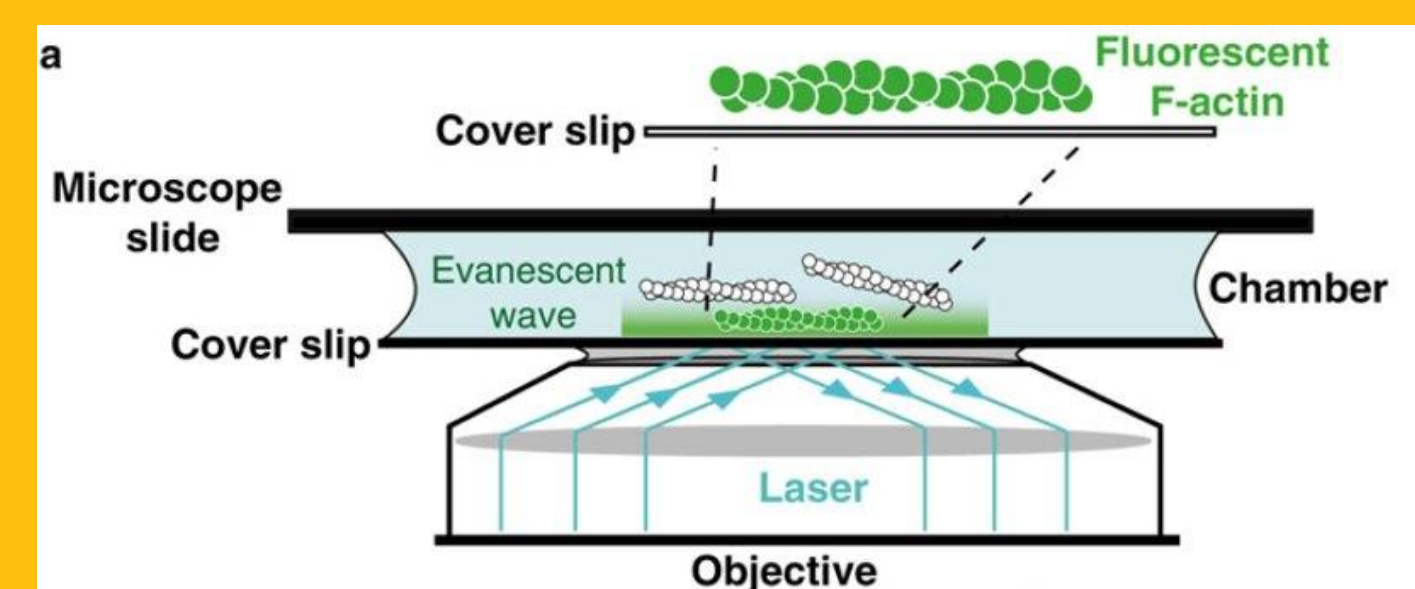

Figure 2: TIRF microscopy allow us to visualize individual actin filaments as they polymerize over time.
- Figure 2: Zimmermann, D. *et al.* (2016) Methods Mol Biol. 1369:151-79